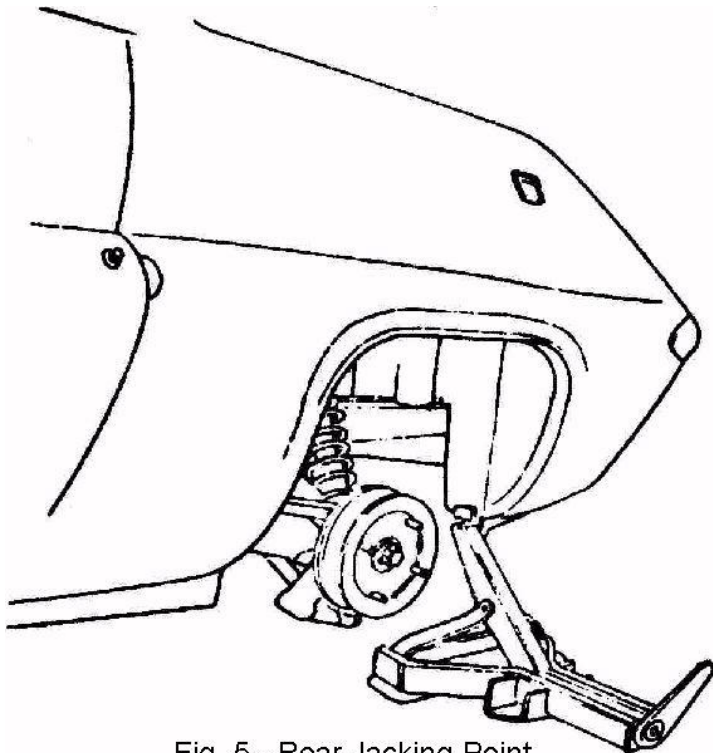

Fig. 5 - Rear Jacking Point.
3. Raise the rear of the car (see Fig.5) and support with chassis stands then remove jack.